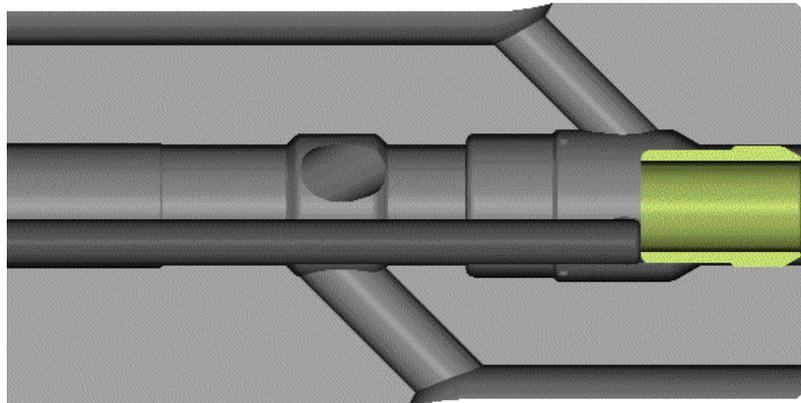

Figure 2-2H
- Once the sleeve removal tool is out of the piston, lay the piston horizontal as shown in figure 2-2H. Insert the 1/2" rod into the strike end of the piston to finish pushing the sleeve out of the piston. It will not take much force to push the sleeve the remainder of the way out the piston.